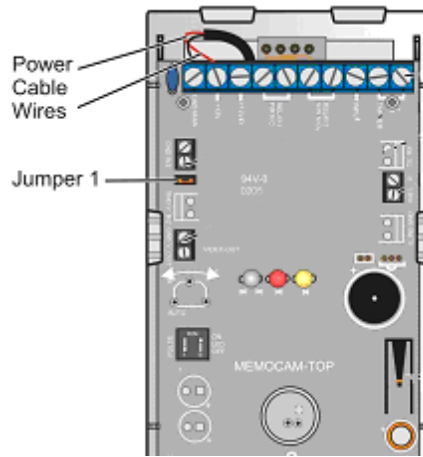

Figure 6 Mobile Module Removed and Jumper1 Re-plugged
7. On the main board, install Jumper1 (plug). Refer to Figure 6. The jumper when not installed is left plugged on one of the pins (storage position).
*Route the power wires as shown in **Figure 6**, otherwise the wires may be damaged when re-installing the boards and closing the top cover.*